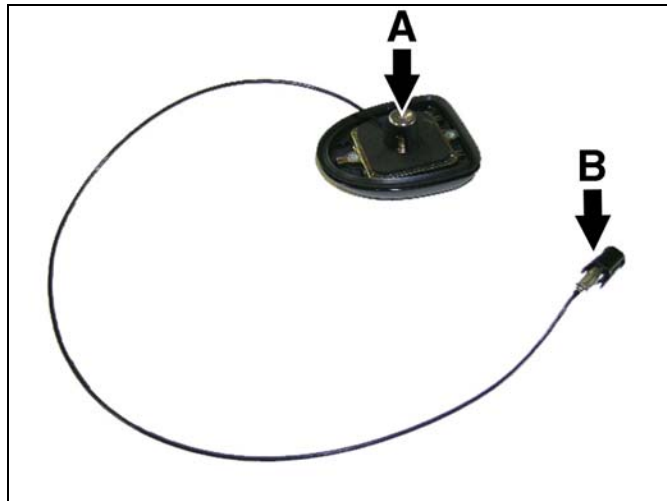

Figure 10
3. Loosen the T25 Torx screw in the SDARS antenna sleeve (Figure 10).
4. Feed the SDARS antenna lead (B, Figure 10), from the trunk lid exterior surface, through the 14 mm hole or, if applicable, the affixed metal washer.
5. Carefully insert the SDARS antenna sleeve (A, Figure 10) into the 14 mm hole, or washer if applicable, until it audibly engages.
8. Tighten, but do not over tighten, the T25 Torx screw in the SDARS antenna sleeve (A, Figure 10) while holding the antenna from above to keep it from turning.